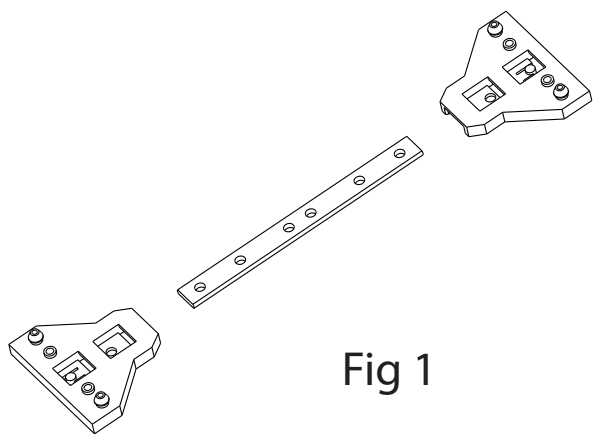
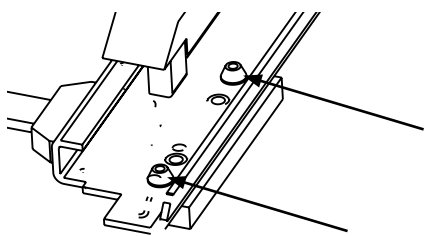

Fig 1
Fig 1b
- 1) Assemble the mounting straps (Fig 1) and attach them to the Blum Tandem slides by snapping the plastic feet into the appropriate holes. (See Fig 1b)